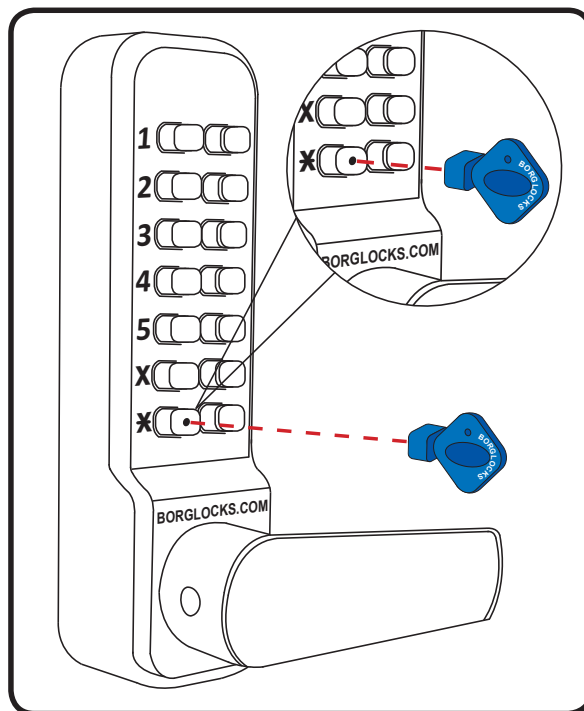

Fig.12
- Fully press and hold the code change key (until step 5) as per Fig.12 below.